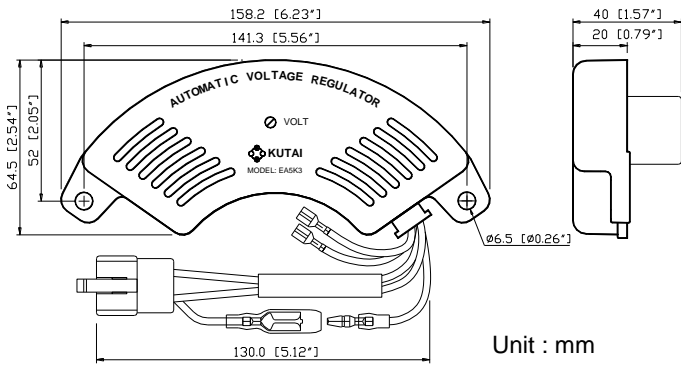

Figure 2 Outline Drawing
1. AVR can be mounted directly on the engine, genset, switchgear, control panel, or any position that will not affect operation. For dimension reference, please see Figure 2.
| | CN1 Connection incorrect | Reference from Figure 2 to correct connection |